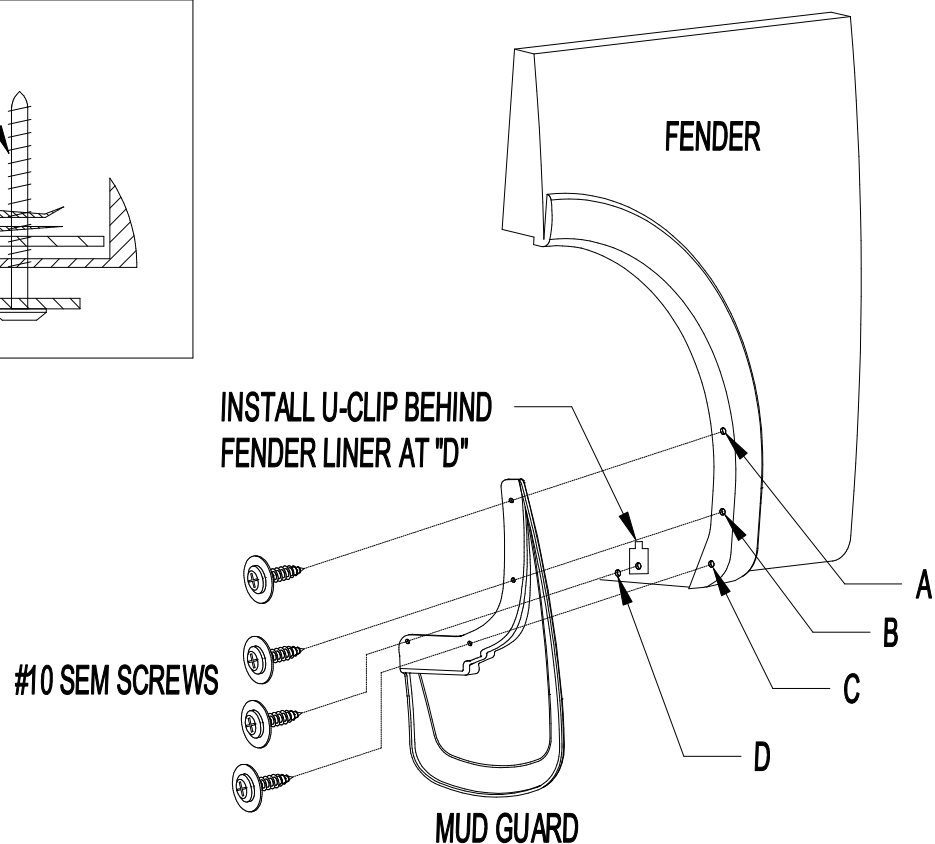

Figure 1
2. Place mud guard to fender making sure the guard is flush to fender, centered over tire and level to the ground. Mark and drill holes at locations A, B, and C (Figure 1).
4. Mark, drill 1/8" hole, and install a #10 SEM screw thru mud guard, thru fender liner and into a u-clip. NOTE: U-clip is used like a nut and placed on the backside of liner. DO NOT CLIP OVER FENDER LINER (Figure 1 & 2).